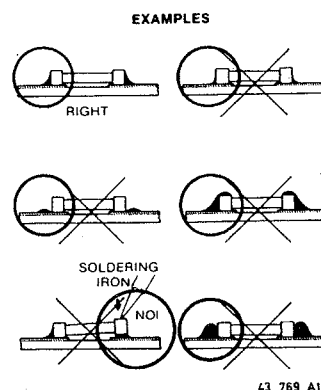

Fig. 3
- The soldering amount should be proper: with an excessive amount the chip may be cracked and subject to other troubles (curvature of printed board, cramp of terminals, etc) See Fig. 3.